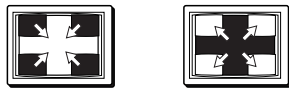

Figure 3-5 — Plus wipe effects
- A plus wipe causes the preview image to appear to unroll over the program image in one of two transitions (figure 3-5):